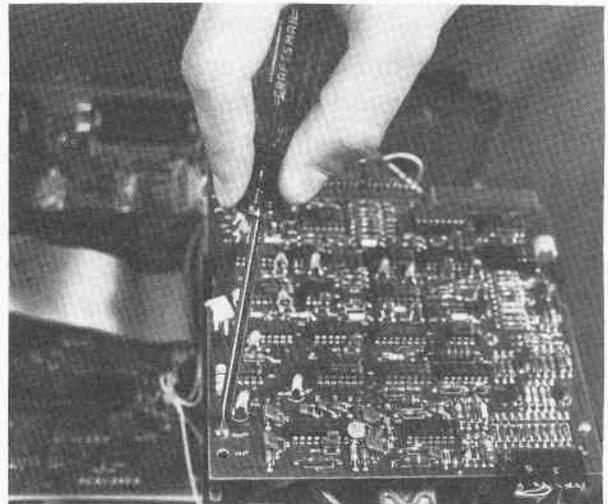

Fig. 4-5. Remove the two Phillips screws holding the analog card on the drive mechanism.
9. Carefully remove the two Phillips screws holding the analog card on the drive (located in the front on both sides), as shown in Fig. 4-5.